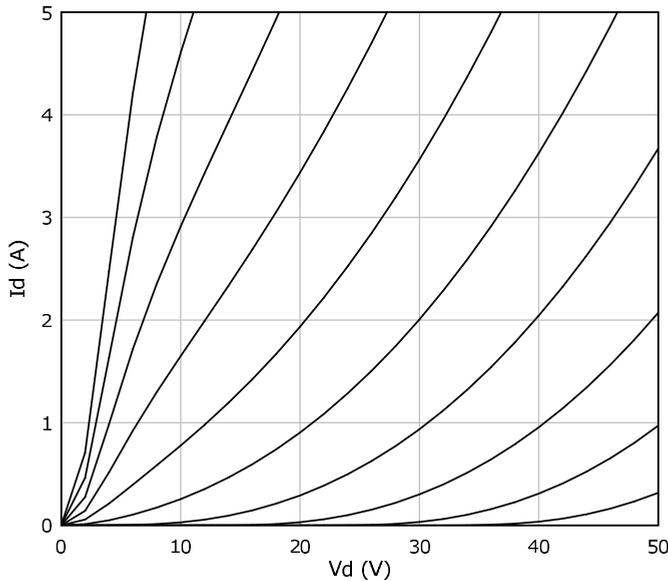

Figure 4 2SK82 curves based on Koren's model.
**Figure 4** is my original Koren model for the 2SK82. This is looking a lot more like a real SIT and it worked just fine for many basic simulations, but we can improve it a bit, and so we will.